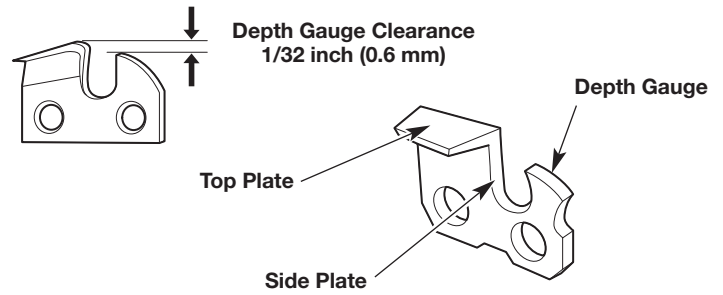

Fig. 39
- Keep the file level with the top plate of the cutter (Fig. 39). Do not let the file dip or rock. Use light, but firm pressure.